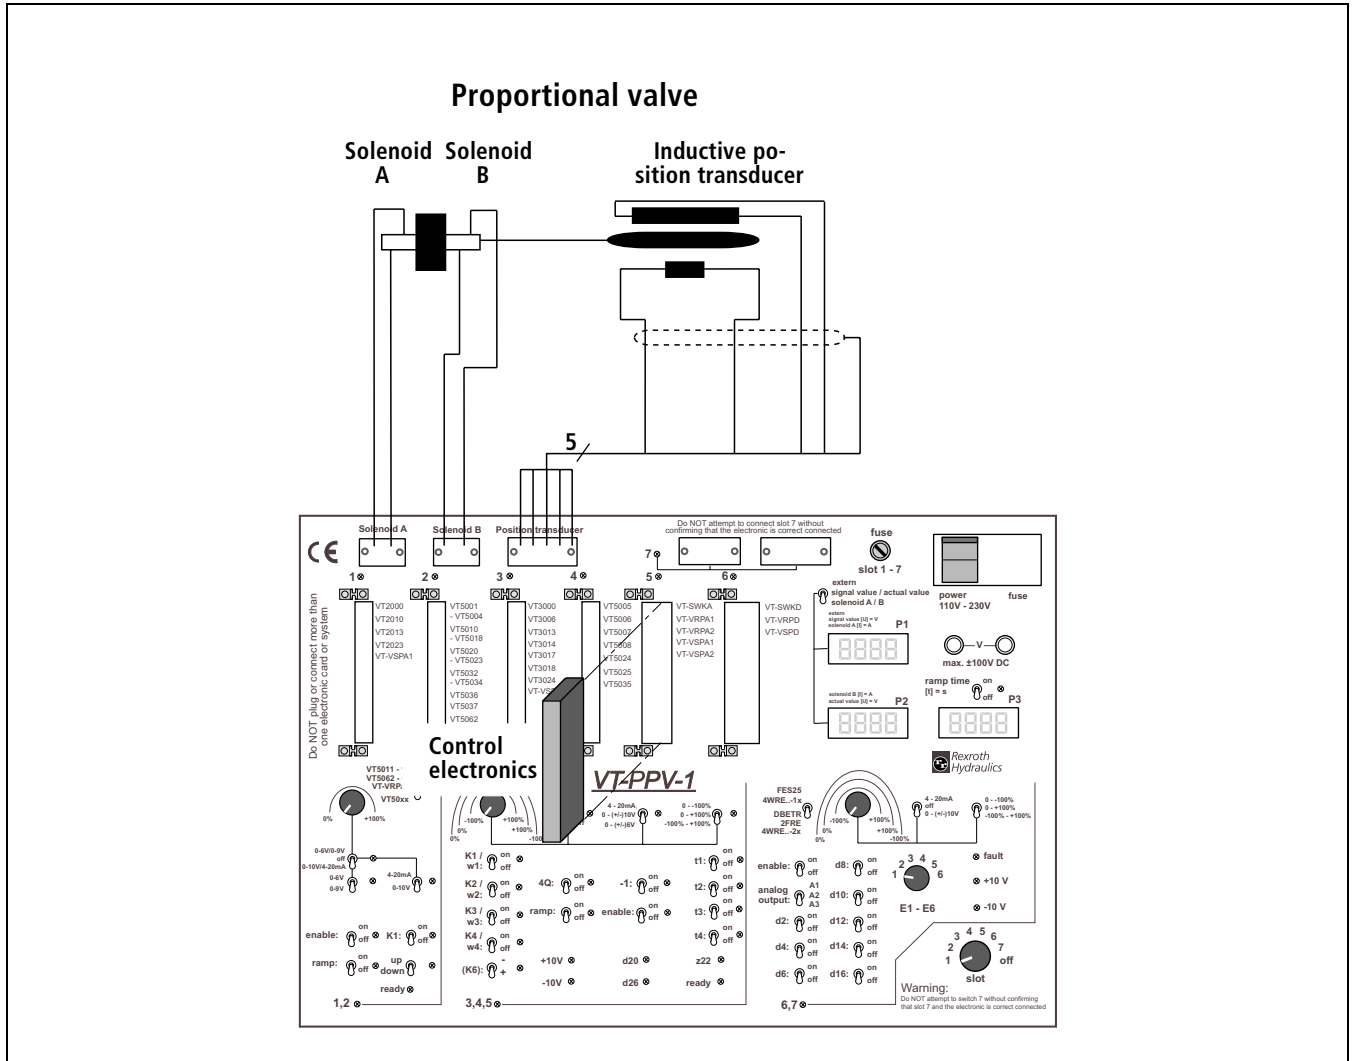
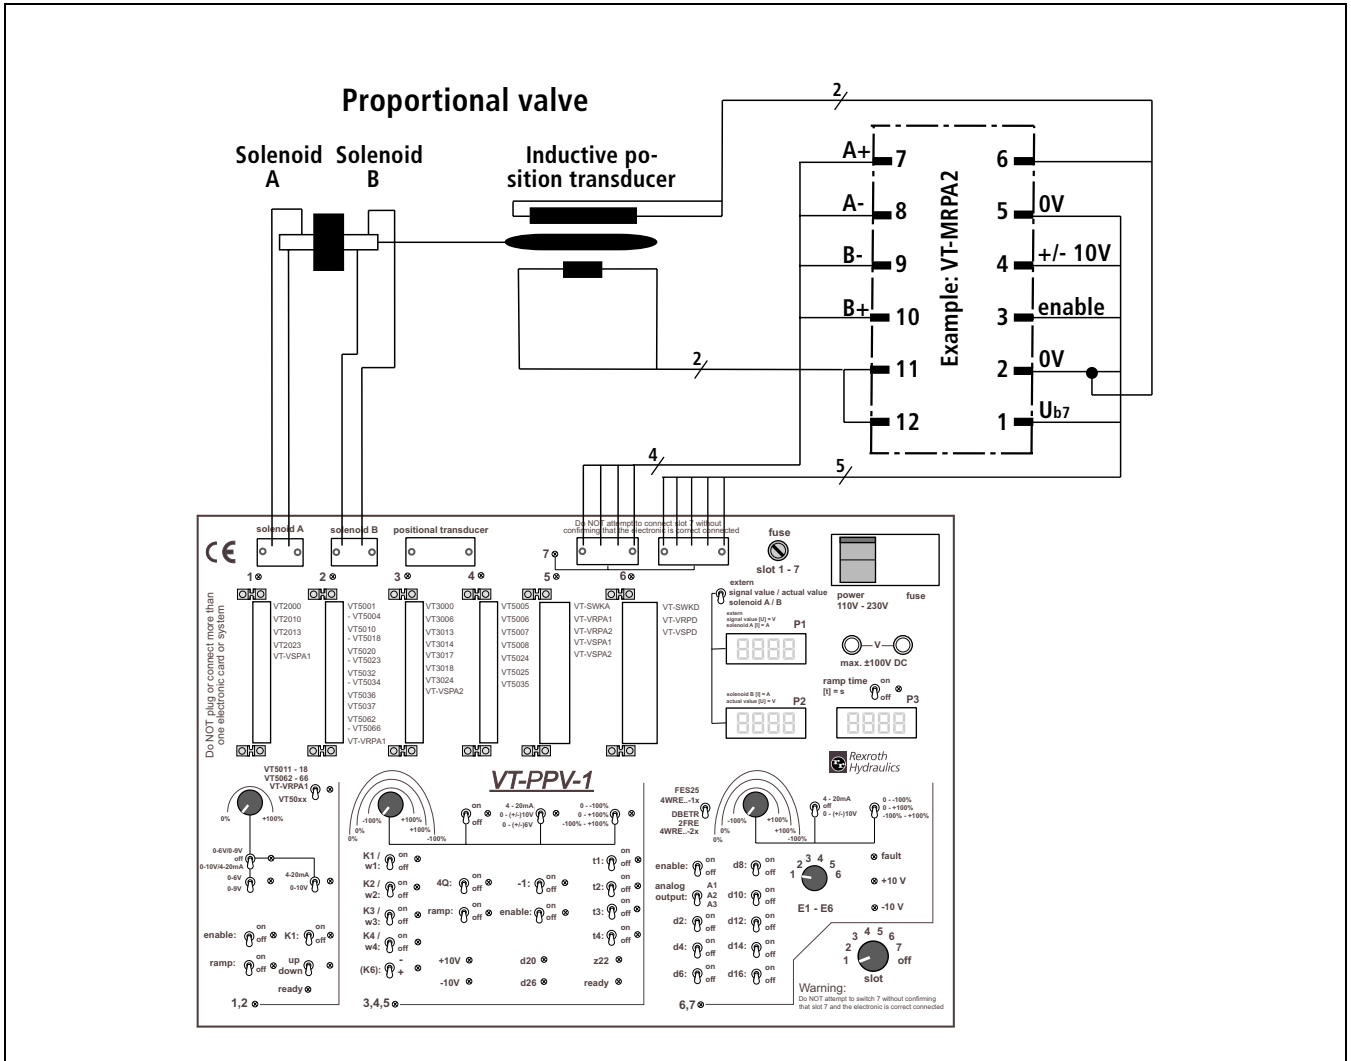

Fig. 5.1: Connection example
Fig. 5.2: Example of connecting a modular amplifier
- If an electronic card or system is to be tested in conjunction with a valve: Connect the proportional valve to the test and service valve (see also connection examples, see Fig. 5.1 on page 41 and Fig. 5.2 on page 42).